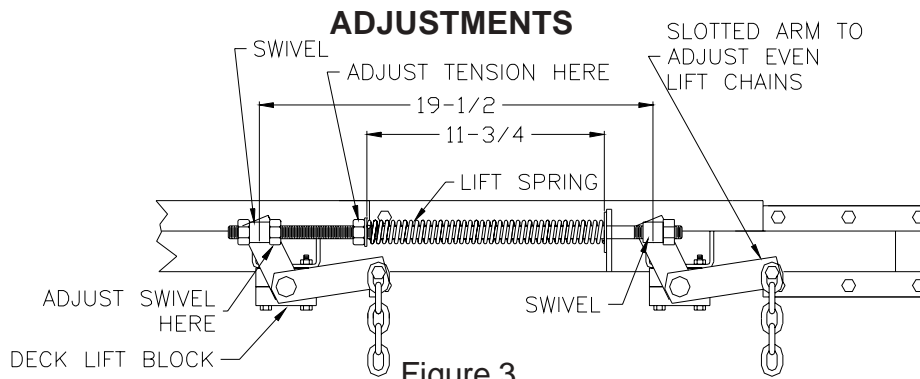

Figure 3
4. Adjust the four upper chain bolts to the center of the slot in the deck lift arms. NOTE: make sure deck lift blocks are tightly bolted to the frame (See Fig 3).
6. Check the distance between the washers on the deck lift springs. Distance should be  $11\text{--}3/4"$  (See Fig 3).